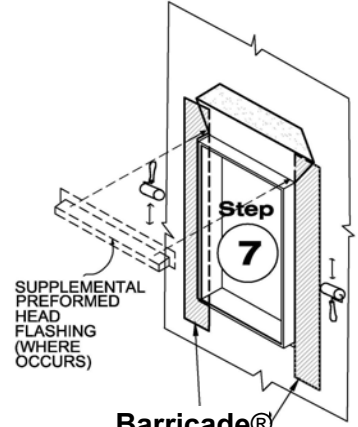

Figure 8 Apply jamb flashing.
Step 7. Precut Barricade® or Polyken® jamb flashing tape to extend a minimum of 6" above and below the rough opening. Peel off release liner and adhere Barricade® or Polyken® jamb flashing over the jamb fins and over top of Barricade® or Polyken® sill flashing (see Figure 8).